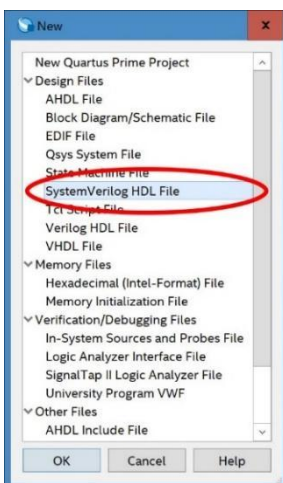

Figure 1: Creating a new SystemVerilog file in Quartus
- a. **Create a SystemVerilog file.** Go to File→New, select “SystemVerilog HDL File”, and hit “OK” (Figure 1). System Verilog is “modern” Verilog and has a lot of nice features over previous versions of Verilog.